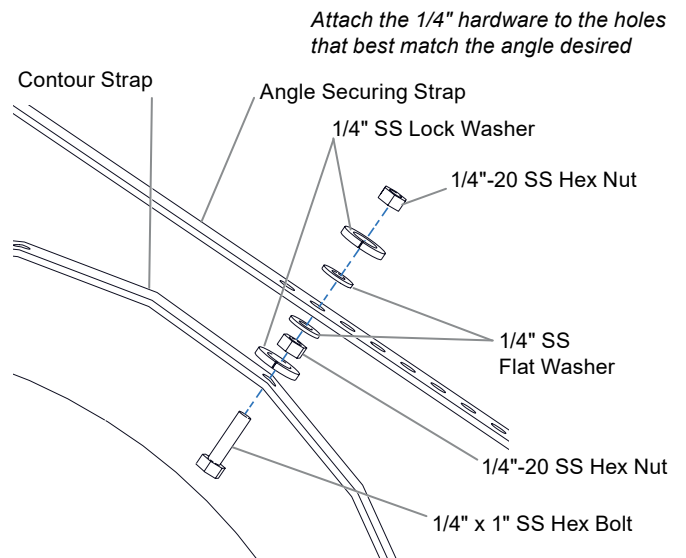

Figure 3c. Attach the securing strap to the contour strap
- Fully attach the securing strap to the contour strap as shown in Figure 3c. First ensure that the loudspeaker is aimed at the appropriate angle. Bend the securing strap towards the enclosure to put it on the bolt previously installed on the contour strap. You will have to bend the securing strap towards the enclosure to put it on the bolt. First place one of the 1/4" flat washers on the bolt, followed by the securing strap. Finish with the remaining 1/4" flat washer, 1/4" lock washer, then secure with a 1/4"-20 hex nut.